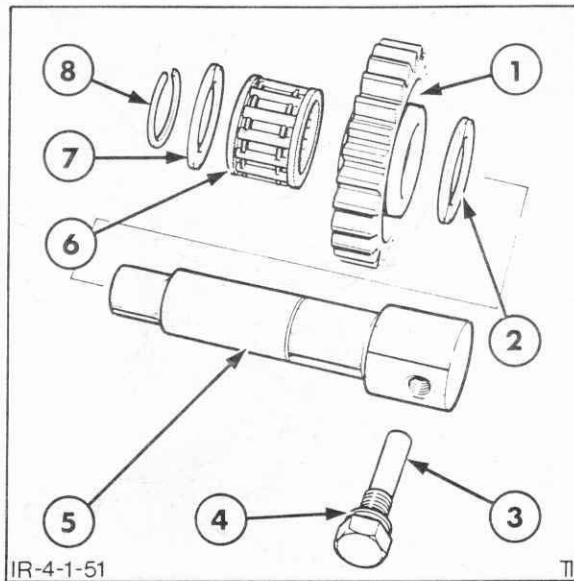

Figure 4-158
1. Install the reverse gear idler shaft into the transmission casing and assembly the component parts for the assembly in the following sequence with reference to Figures 4-158 and 4-159.